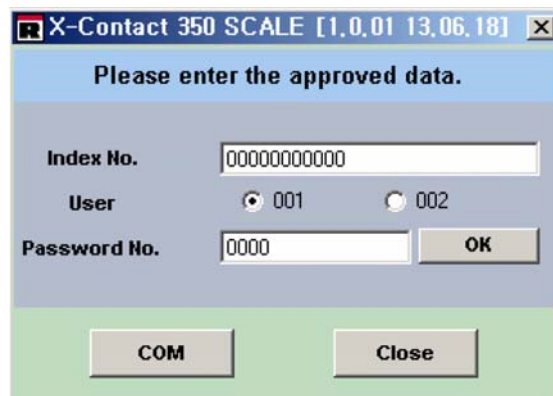

Figure 7-7. Beginning Calibration Screen
10. Once the com port is selected, the PC screen goes back to the Index and User password screen as shown in Figure 7-7. Select the default User 001.